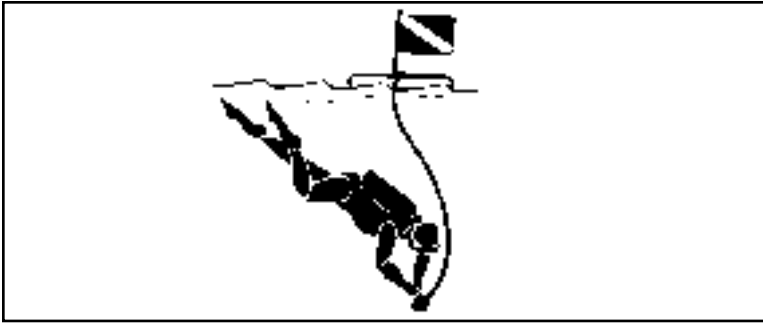

FIGURE 1.2 DIVER DOWN FLOAT
6. Do not allow anyone near the propeller(s), even when the engine is off. Propeller blades can be sharp and can continue to turn even after the engine is off. Stay at least 150 feet away from areas marked by a diver down float (Figure 1.2).